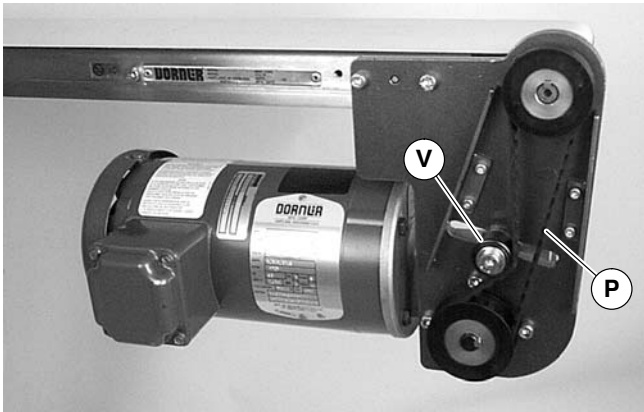

Figure 18
2. Loosen tensioner (V of Figure 18).